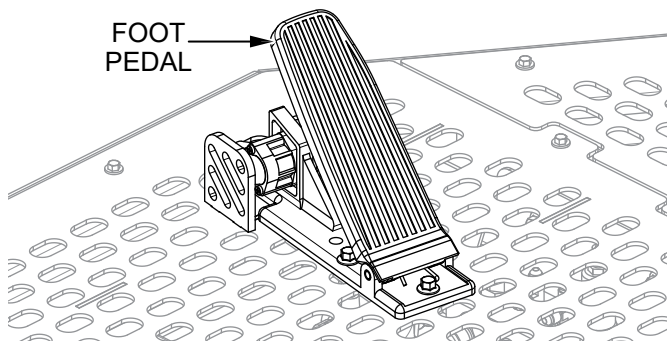

Figure 24. Foot Pedal
The **foot pedal** (Figure 24) controls engine and rotor speed. The position of the foot pedal determines the rotational speed of the rotors. Slow rotor speed is obtained by slightly depressing the foot pedal. Maximum rotor speed is obtained by fully depressing the foot pedal.
1. Start the engines and depress the **foot pedal** (Figure 24) to increase rotor speed to the desired speed.